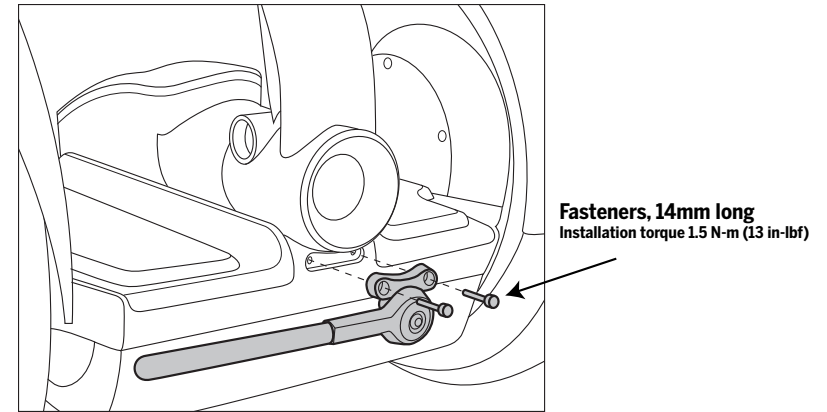

Figure 2. Attaching the Parking Stand
3. Place the Parking Stand over the Front Trim so that the holes align. See Figure 2.
4. Thread the (2) 14 mm long fasteners, provided with this kit, through the Parking Stand and into the Front Trim. See Figure 2. Using a 4mm hex wrench torque to 1.5 N-m (13 in-lbf).